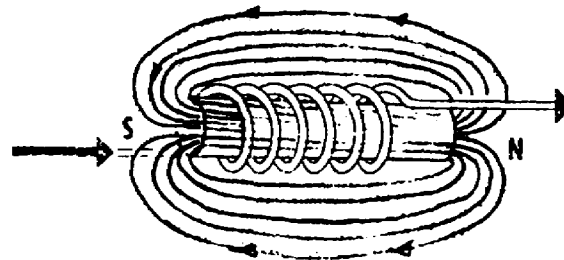

Figure 15. Iron core coil.
d. If an iron core is placed inside the coil, the magnetic field becomes much stronger because iron conducts magnetic lines much easier than air (fig 15). This arrangement, called an electromagnet, is used in generators to create strong magnetic fields by winding many turns of current-carrying wire around iron cores called pole pieces.